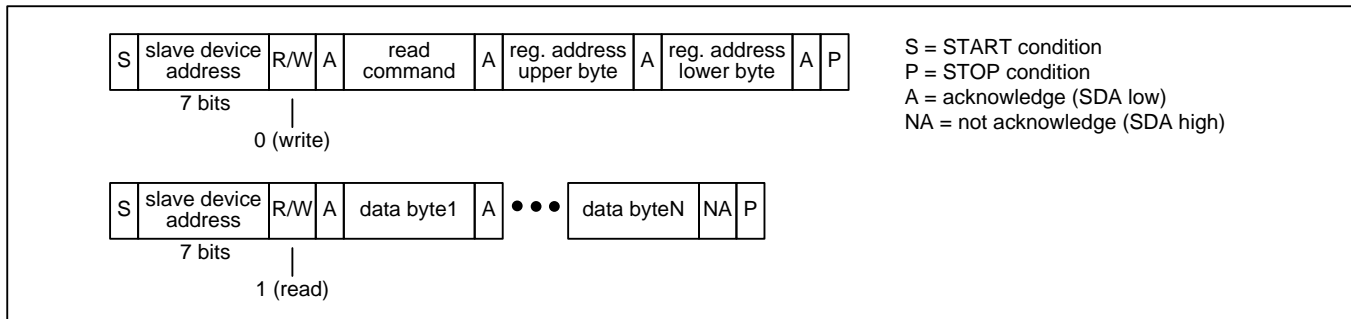
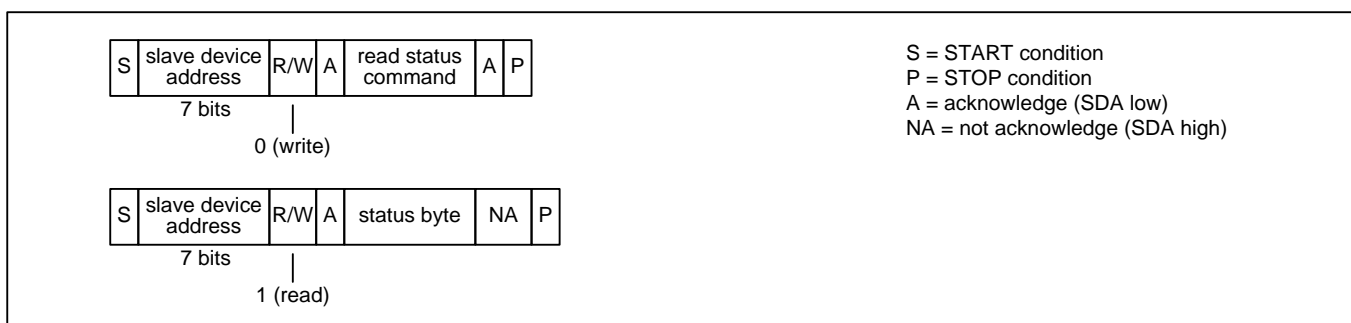

Figure 9 - I²C Read Transaction Functional Timing
Figure 12 - I²C EEPROM Read Status Transaction Functional Timing (ZL30261 and ZL30263 Only)
**Read Transactions.** The device registers are accessible when the **EESEL** bit is 0. On ZL30261 and ZL30263 the internal EEPROM memory is accessible when the **EESEL** bit is 1. On ZL30260 and ZL30262 the **EESEL** bit must be set to 0. The bus master first does an I2C write to the device. In this transaction three bytes are written: the SPI Read command (see Table 3), the upper byte of the register address, and the lower byte of the register address. The bus master then does an I2C read. During each acknowledge (A) bit the device fetches data from the read address and then increments the read address. The device then transmits the data to the bus master during the next 8 SCL cycles. The bus master terminates the read with a not-acknowledge (NA) followed by a STOP condition (P). See Figure 9. After the I2C write there can be unlimited idle time on the bus before the I2C read, but the device cannot tolerate other I2C bus traffic between the I2C write and the I2C read. Care must be taken to ensure that the I2C read is the first command on the bus after the I2C write to ensure the two-part read transaction happens correctly.
**EEPROM Read Status (ZL30261 and ZL30263 Only).** The bus master first does an I2C write to transmit the SPI Read Status command (see Table 3) to the device. The bus master then does an I2C read to get the status byte. In this byte, the least significant bit is set to 1 if the transfer is still in progress and 0 if the transfer has completed. See Figure 12. Similar to read transactions described above, the I2C write and the I2C read cannot be separated by other I2C bus traffic.
Note: In Figure 9 through Figure 12, a STOP condition (P) immediately followed by a START condition (S) can be replaced by a repeated START condition (Sr) as described in the I²C specification.